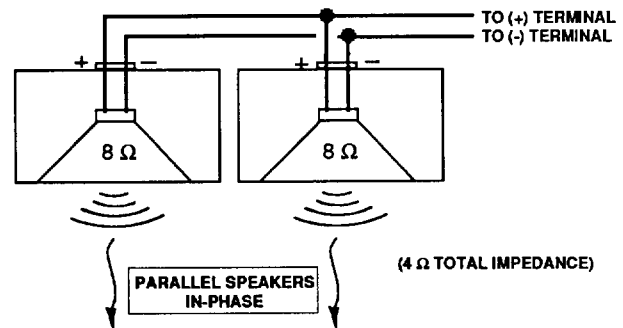

Figure 4
- A. When you connect speakers to the TO SPEAKERS jacks on the Mixer's rear panel, you are connecting them in parallel (see Figure 4). For example, if you are using two Electro-Voice 100S speakers (8  $\Omega$  each), the total impedance will equal 4  $\Omega$ .